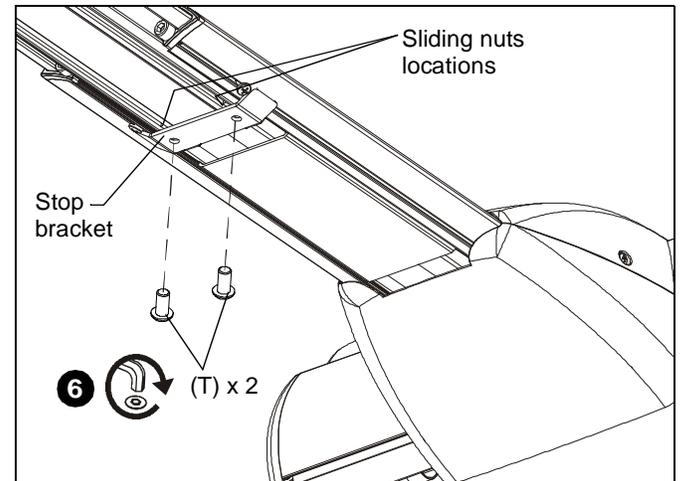

Figure 37
6. Install two 1/4-20 x 1/2" button head security screws (T) through holes in stop bracket and into holes in sliding nuts. (See Figure 37)